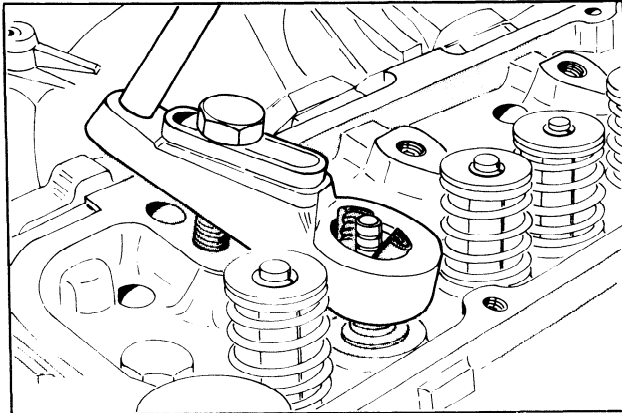

FIG. 31 Valve Spring Compressing Tool
8. Compress the valve spring, using special service tool (Figure 31). Remove the valve spring retainer locks. Release the spring compressor, remove the valve spring retainer and the valve stem oil seal.